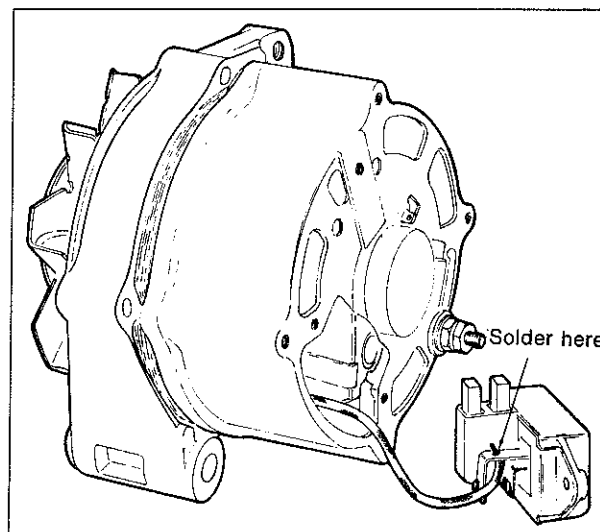

Fig. 4—Regulator cable connection
(1) Mark relative positions of the stator and the end plates.
(2) Remove brush holder/regulator screws and lift out assembly. Unsolder the cable from the regulator (Fig. 4).
(3) Remove the four through bolts.
(4) Withdraw drive end plate and rotor complete being careful not to lose wave washer from behind the bearing.
(5) Remove three rectifier retaining screws and nut and insulation components from "B+" terminal.
(6) Withdraw stator and rectifier assembly from end plate.
(7) The three stator connections can be unsoldered from the rectifier assembly for test purposes.